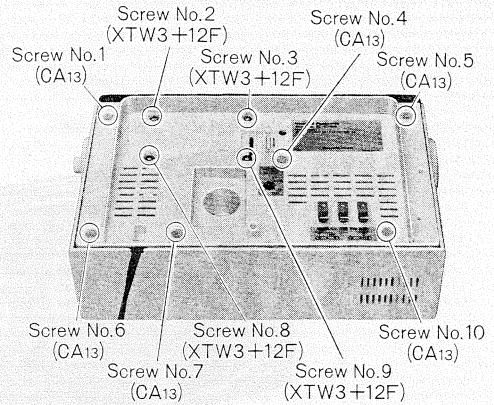

Fig. 2
- 2. Remove the six (6) screws (nos. 1, 4, 5, 6, 7 & 10) for the cabinet cover, as shown in fig. 2.
- 2. Remove the four (4) screws (nos. 2, 3, 8 & 9) for the clock, as shown in fig. 2.